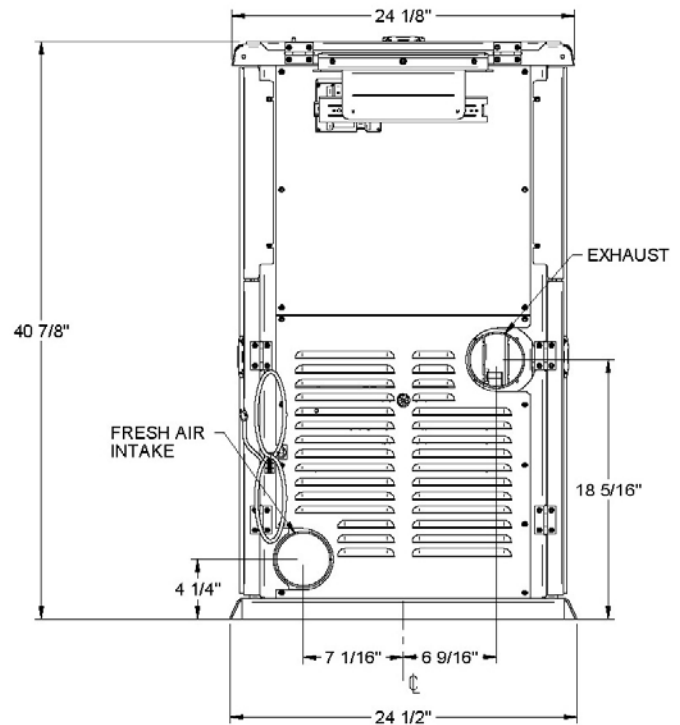
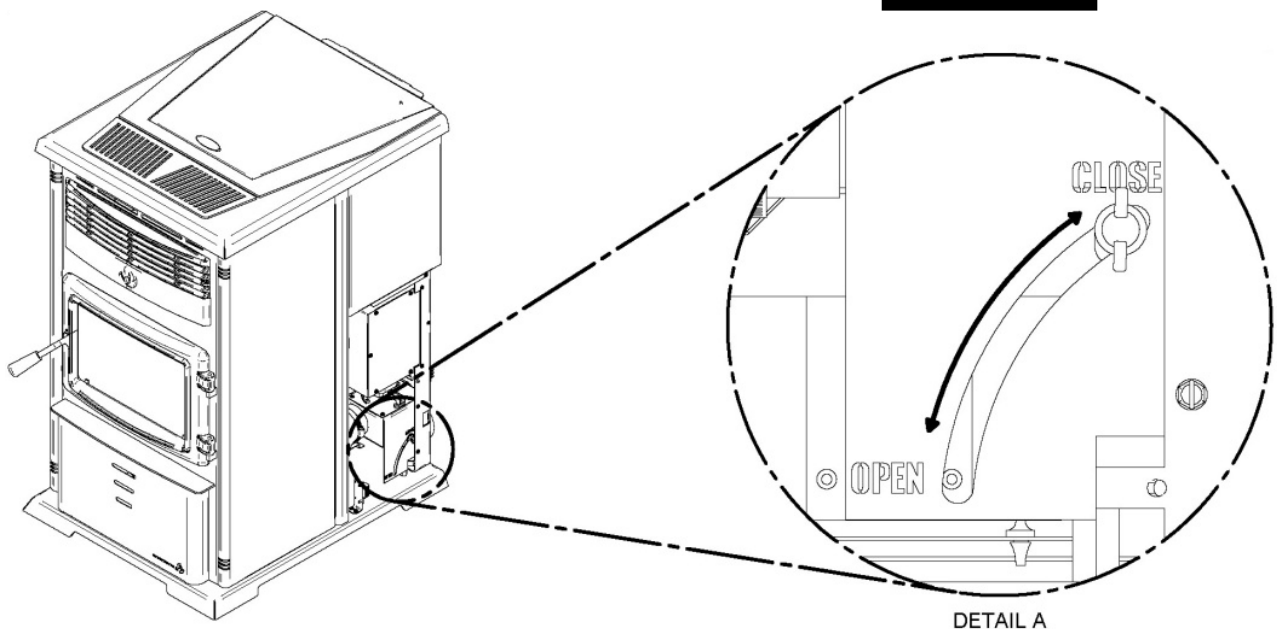
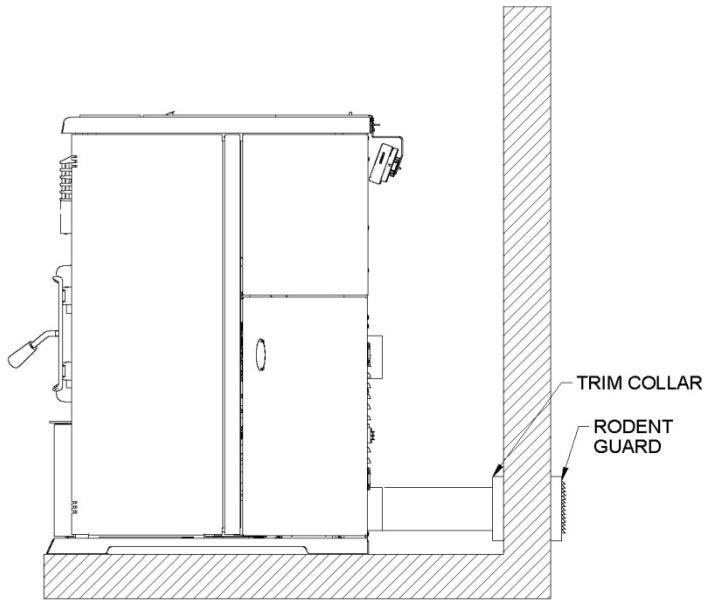

FIGURE 5
FIGURE 6.
FIGURE 7
It is mandatory to connect this stove to an outside combustion air source to reduce the risk of hopper burn back caused by negative pressure. An insulated 4" inside diameter metallic pipe, either flexible or rigid, must be attached to the inlet at the stove's rear (refer to figure 5). A rodent guard (minimum 1/4" wire mesh) must be used at the terminus (refer to figure 7). All connections must be secured and airtight by either using the appropriately sized hose clamp and/or UL-181-AP foil tape. Also make sure that the fresh air damper is open while the stove is running. The fresh air intake damper is located at the back of the stove right hand side (refer to figure 6.).
2. Locate position of hole in wall; directly behind stove exhaust vent (refer to figure 5).